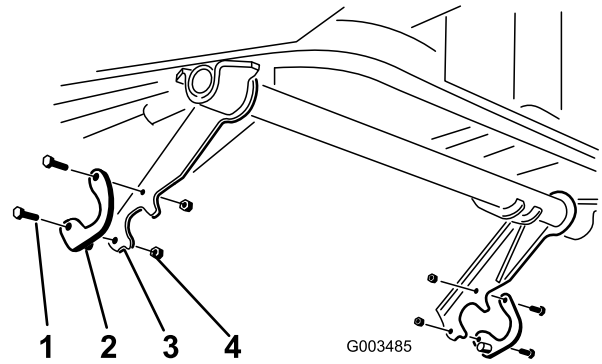

Figure 9
2. Loosely attach the rear of a saddle assembly to each lift arm with a bolt (5/16 x 1 inch) and locknut (5/16 inch). The saddle stud should point inward (Figure 9).
Important: The saddles must be oriented as shown in Figure 9.